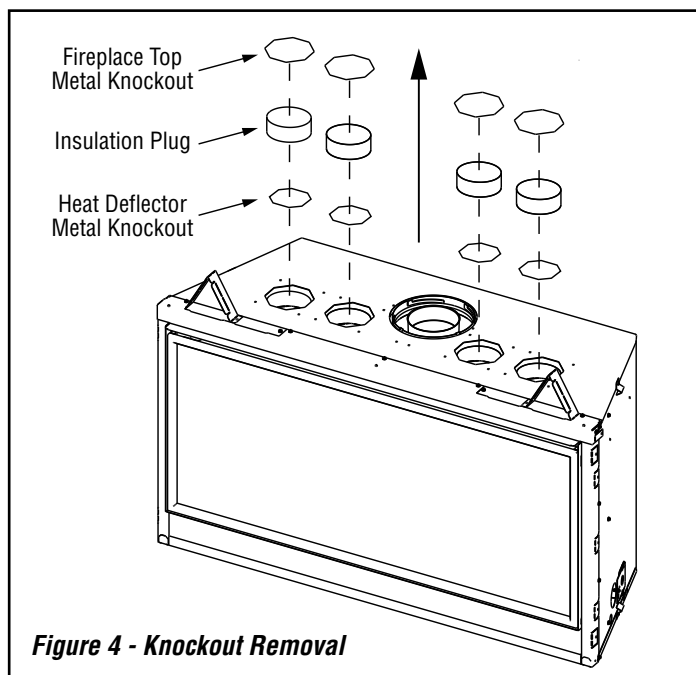

Figure 4 - Knockout Removal
1. Remove four knockouts in fireplace top and discard (**Figure 4**).
2. Remove four precut plugs in insulation between fireplace top and inner heat deflector (**Figure 4**).
3. Remove four knockouts from inner heat deflector (**Figure 4**).